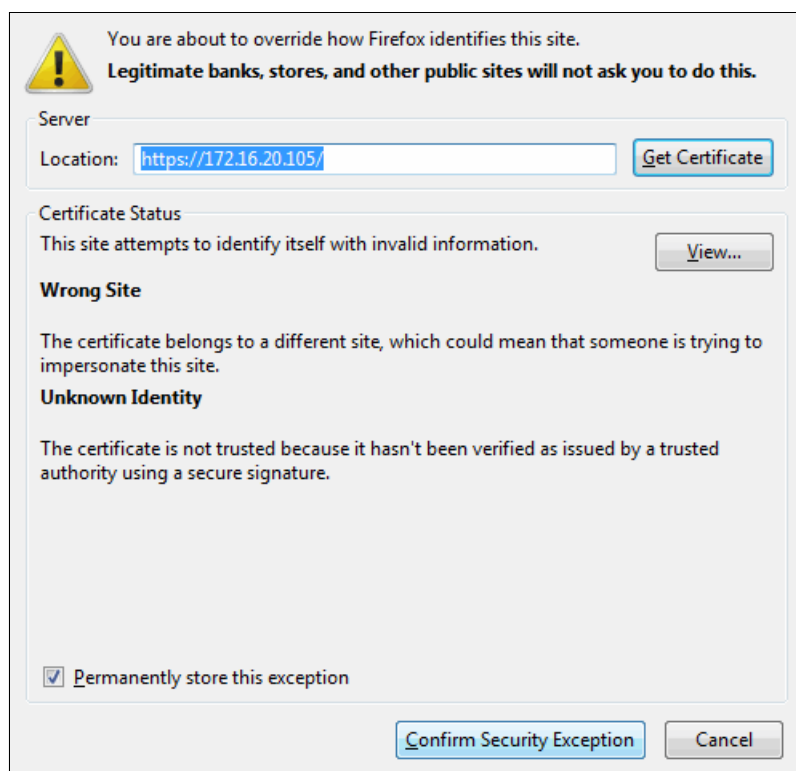

Figure 5-2 Confirm security exception
4. You are prompted for a confirmation (Figure 5-2). Click **Confirm Security Exception** for this HMC.